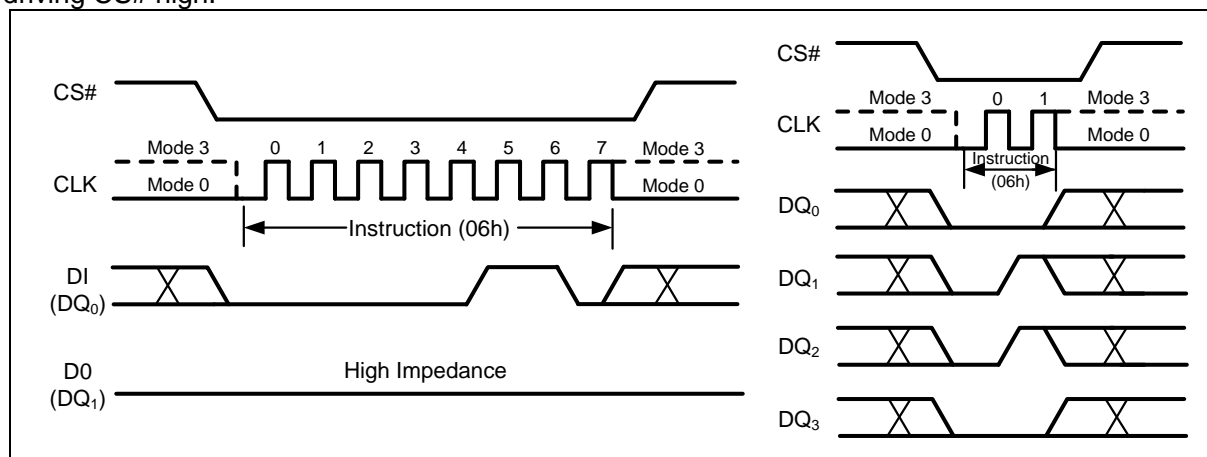

Figure 9 Write Enable Instruction for SPI Mode (left) or QPI Mode (right)
The Write Enable (WREN) instruction (Figure 9) sets the Write Enable Latch (WEL) bit in the Status Register to a 1. The WEL bit must be set prior to every Page Program, Quad Page Program, Sector Erase, Block Erase, Chip Erase, Write Status Register and Erase/Program Security Sectors instruction. The Write Enable (WREN) instruction is entered by driving CS# low, shifting the instruction code “06h” into the Data Input (DI) pin on the rising edge of CLK, and then driving CS# high.